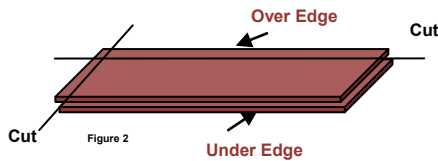

Figure 2
**3** We recommend that the over-edge top of the connecting surface of the first plank/tile be cut away to avoid any visible dip once the plank relaxes (fig. 2), unless the installation is prior to the skirting, then this process is not required.